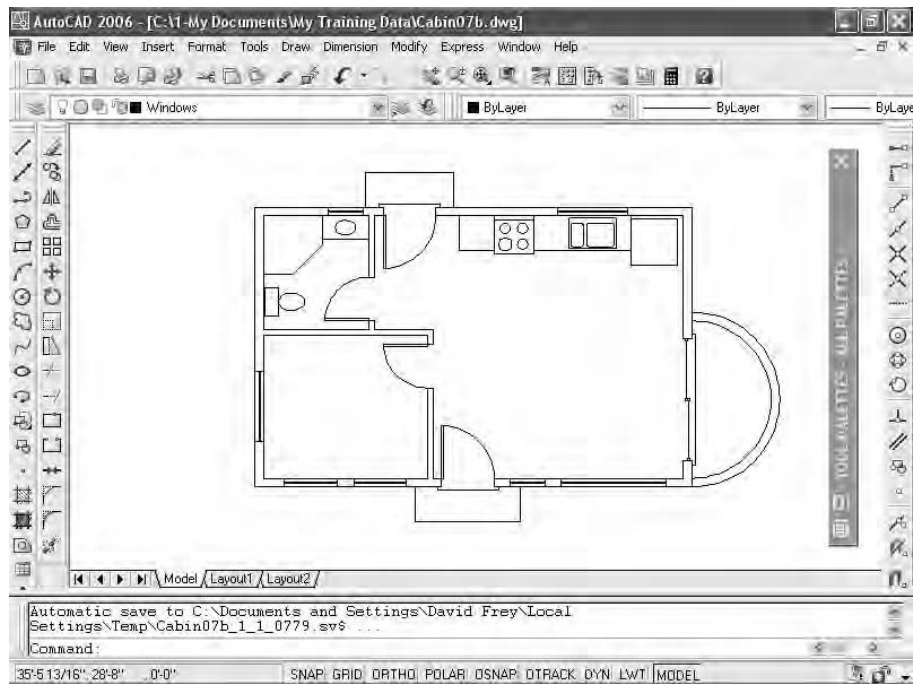

FIGURE 7.49: The palette title bar with Auto-Hide on
7. Right-click the palette's title bar, and choose Auto-Hide from the shortcut menu. When the menu closes, move the cursor off the palettes. The palettes disappear except for the title bar (see Figure 7.49). When you move the cursor back onto the title bar, the palettes reappear—a handy feature.